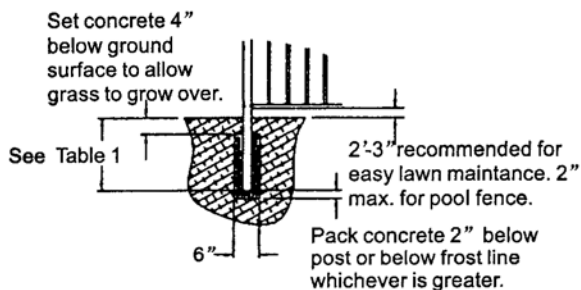

FIGURE 2
- 1.3. Proceed to dig post holes. Post center to center measurement will be 6' - 3/4" when everything is level and tight. See Figure 2 for post hole depth.